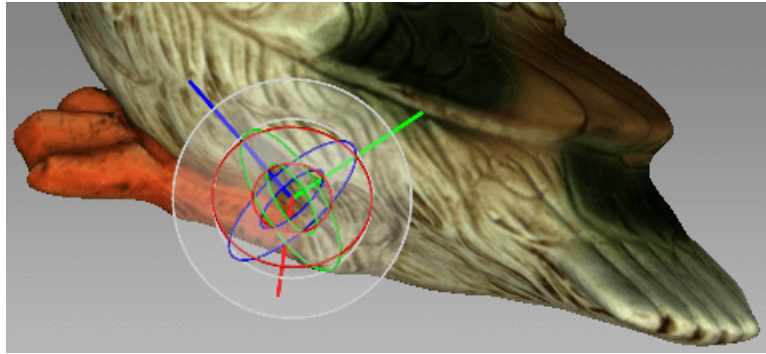

Figure 182: Rotation control
- Drag one of the three circles (see Figure 182) to rotate the object. Hitting the key that corresponds the required axis (**X**, **Y** or **Z**) will hide the controls for the other axes.